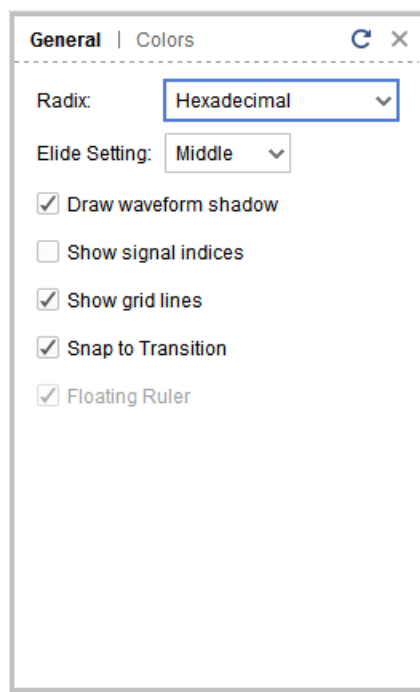

Figure 22: Waveform Options - General View
3. Select the **Draw Waveform Shadow**, as shown in Figure 22, to enable or disable the shading under the signal waveform.